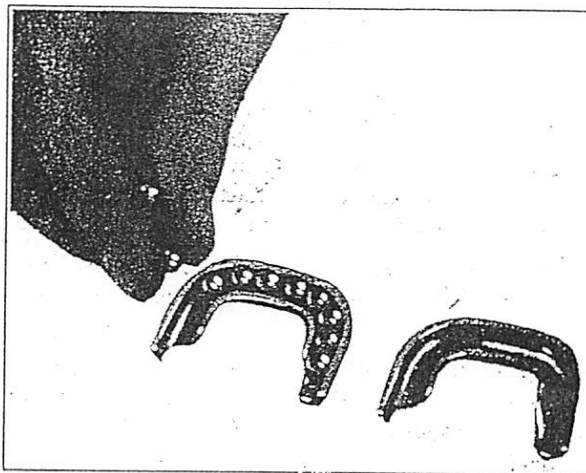

Fig. 22—Filling Ball Guides
3. Lay one half of a guide, groove UP, on the bench and place the remaining balls from the count container in it, Fig. 22. The number of balls remaining should just fill the guide.